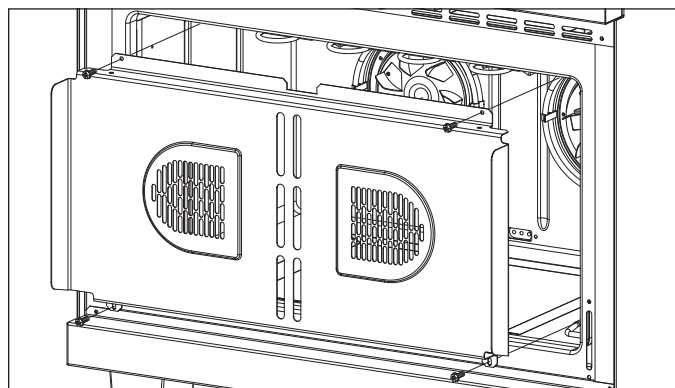

**Figure 4-41. Removable Rack Guides**
**NOTE:** On units starting with serial #16000000 the oven rack guides remove without extracting any screws. Simply lift upwards on the rack to disengage the shoulder screw from the keyhole slot on the rack guide and remove. (See Figure 4-41)